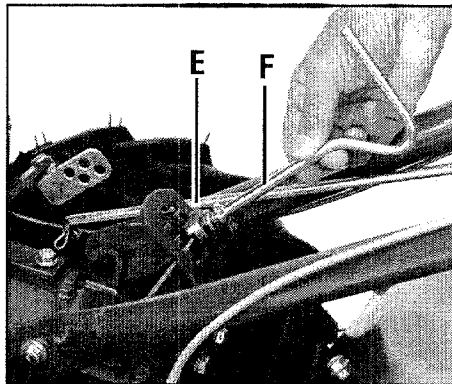

Figure 2-4: Install height adjustment handle.
4. Move the handlebar to align the hole in the cross-brace with one of the four slots in the curved height adjustment bracket. Place the keyed washer (E, Figure 2-4) on the height adjustment handle (F) with the raised keys (edges) on the washer facing down.